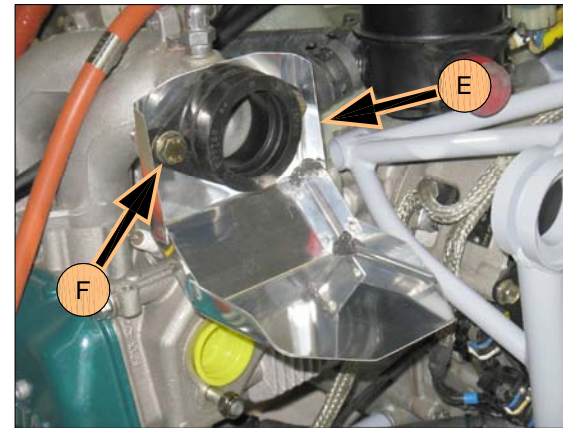

FIGURE 3: INSTALL DRIP PANS
Step 3: Install the VA-205 Drip Pan (E) between the intake manifold and the carburetor flange assembly. See Figure 3. Verify that the O-rings are still in place on the flange and manifold. Install the longer bolt (F) to the outboard side. Use Loctite 221 and torque to 125 in-lbs.